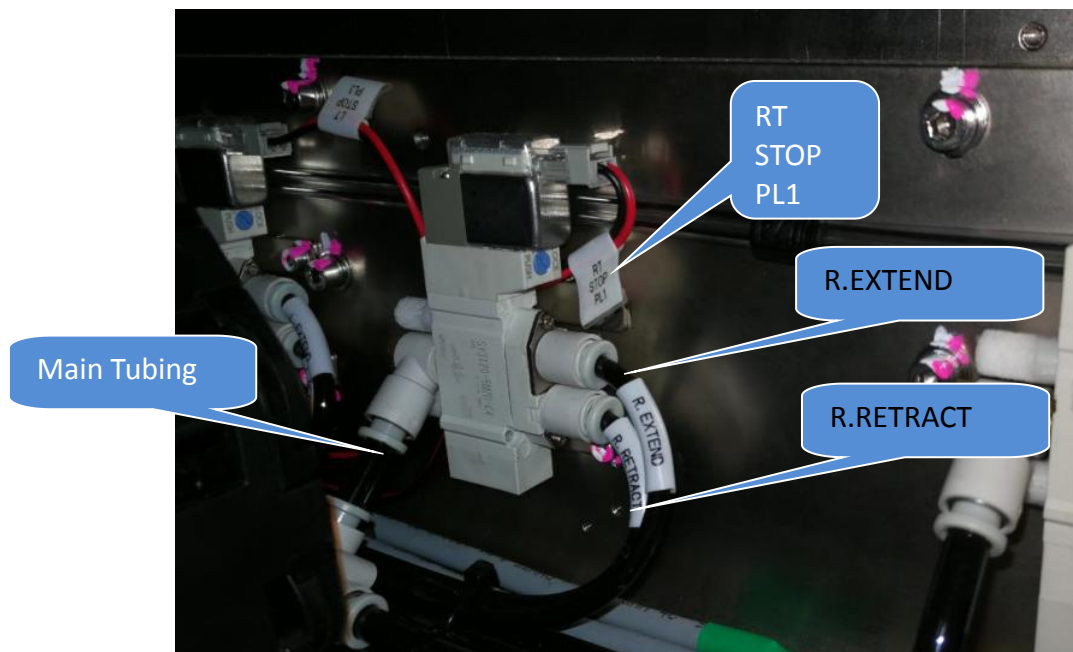

Figure 9 Right PIP Pneumatic Valve Assembly
- Connect Solenoid Valve Cable by refer to Label “ RT STOP PL1” as below Figure 9
- Connect 2 x Tubing respectively by refer to “R.EXTEND” & “R.RETRACT” as below Figure 9
- Connect Main tubing as below Figure 9